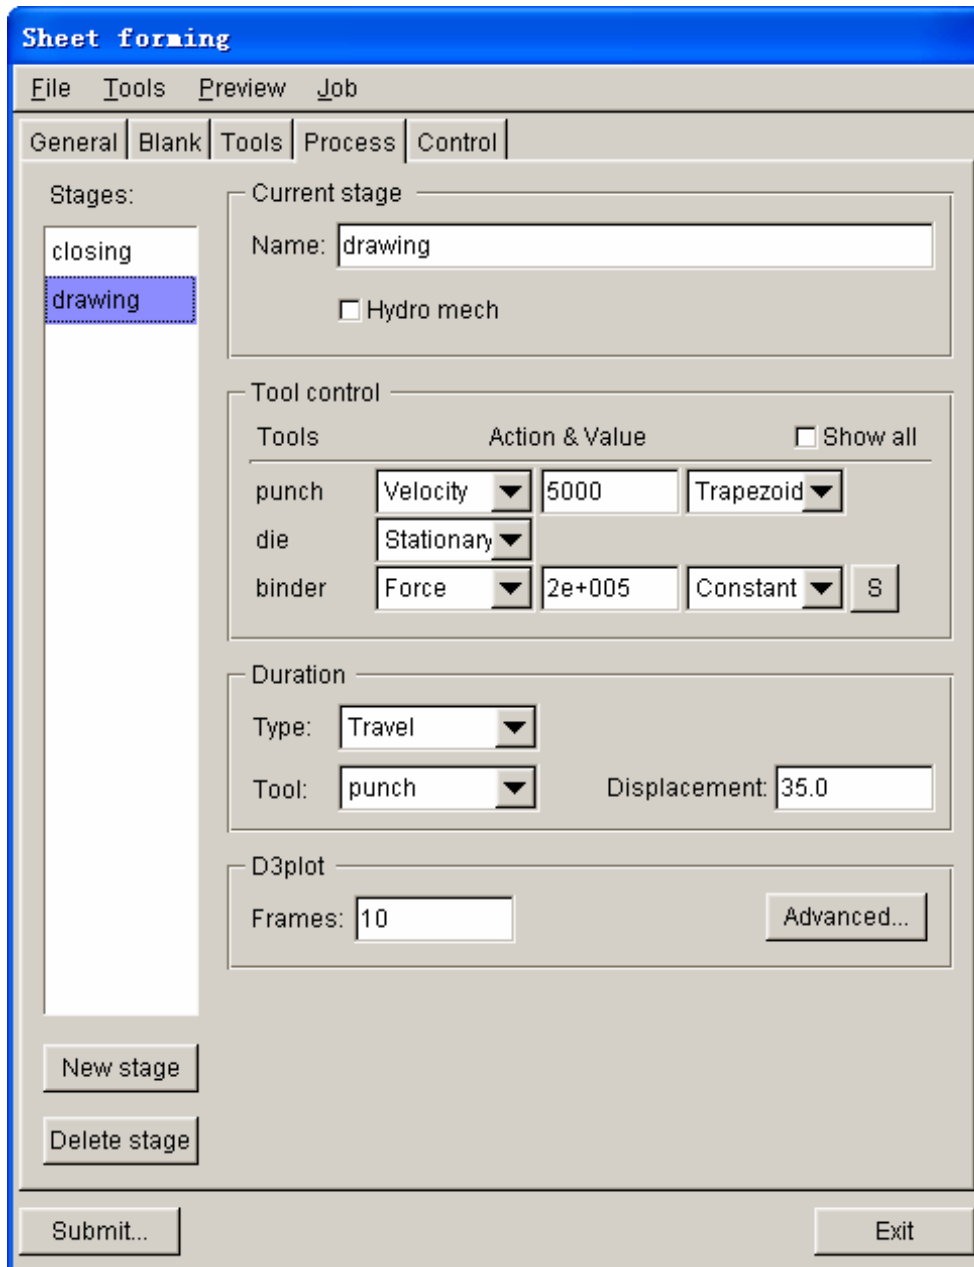

Figure 2.35 Drawing definition interface
3. Select **drawing** process from the list located at the left side of interface to be the current process. See Figure 2.35.
4. Verify the default setting of **closing** stage is similar to Figure 2.35.